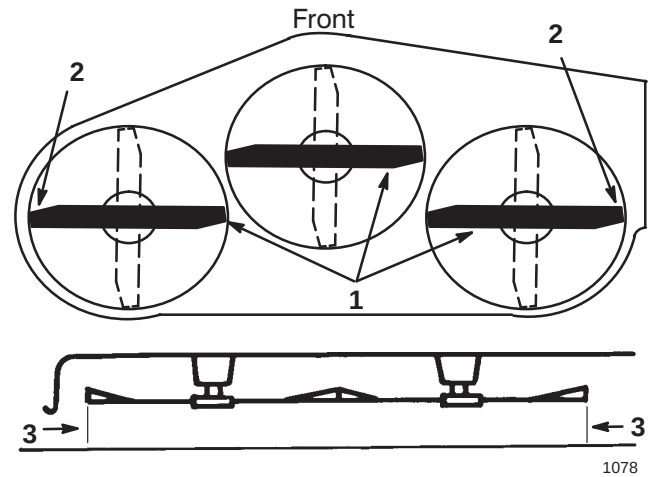

Figure 11
3. Carefully rotate the blade(s) side to side (Fig. 11). Measure between the outside cutting edges and the flat surface (Fig. 11). If both measurements are not within 3/16 in. (5 mm), an adjustment is required; refer to steps 4 and 5.